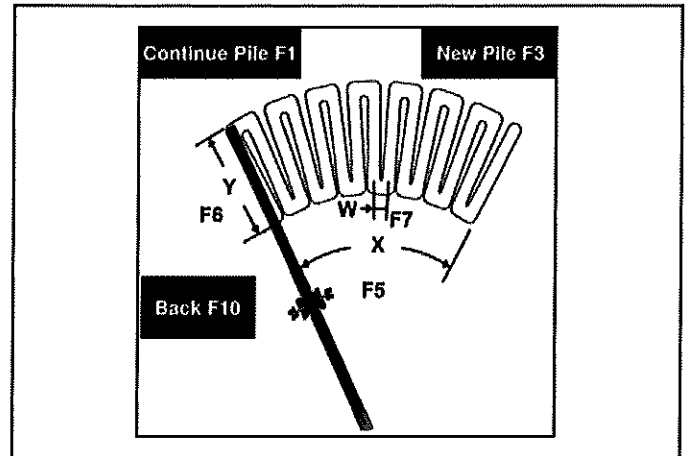

Figure 66
- a. Press screen **F5** or **[F5]** to adjust radial arc distance (X) (Figure 66).
- c. Press screen **F6** or **[F6]** to adjust extension distance (Y) (Figure 66).
- e. Press screen **F7** or **[F7]** to adjust radial increment value (W) (Figure 66).
- g. Press screen **F3** or **[F3]** to proceed with your new pile parameters or press screen **F1** or **[F1]** to accept to a previous enter pile (Figure 66).